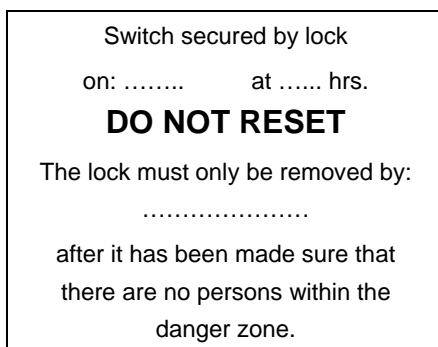

Figure 1
2. If possible, secure the switch by means of a lock. Please adjust a sign in accordance with figure 1. The sign should be attached to the switch so that it can be seen.